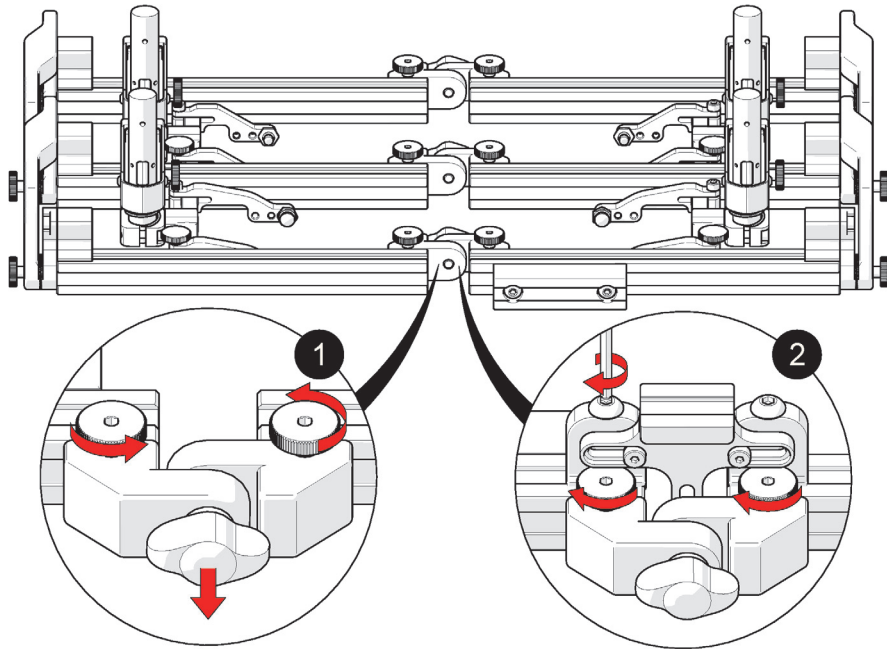

Figure 2-120 Correct probe holder longitudinal adjustment
1. Remove the dovetail bar pivot (1) from one of the sets of probe holder racks (see Figure 2-120 on page 141). The choice of which dovetail bar pivot to remove is at your discretion.
2. Attach the laser guide pivot mount (2) to the frame bar (see Figure 2-120 on page 141), and then tighten the dovetail knobs and the dovetail screws. Ensure a flush alignment of the pivot mount and the frame bar to achieve proper centering of the laser guide pivot mount.